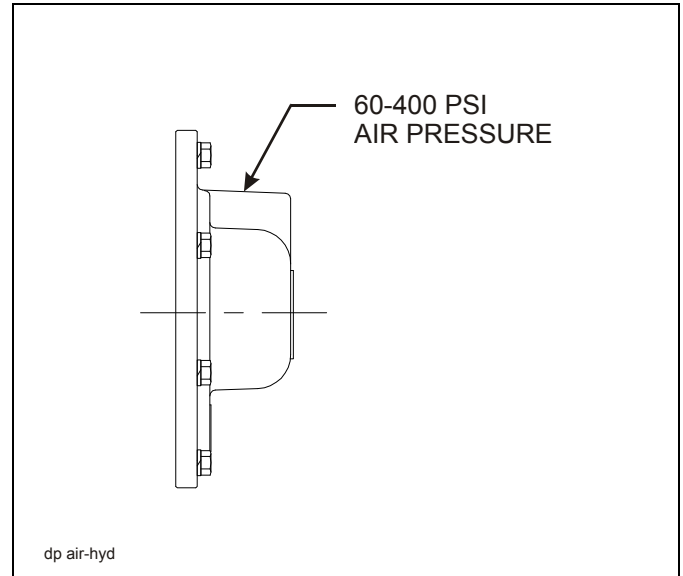

Figure 3-7: Air/Hydraulic Kickout
2. The air freespool clutch is operated by application of air pressure to the fitting supplied on the winch gearbox housing (See Figure 3-7.) The fitting is designed to accept 1/4" rigid plastic tubing.